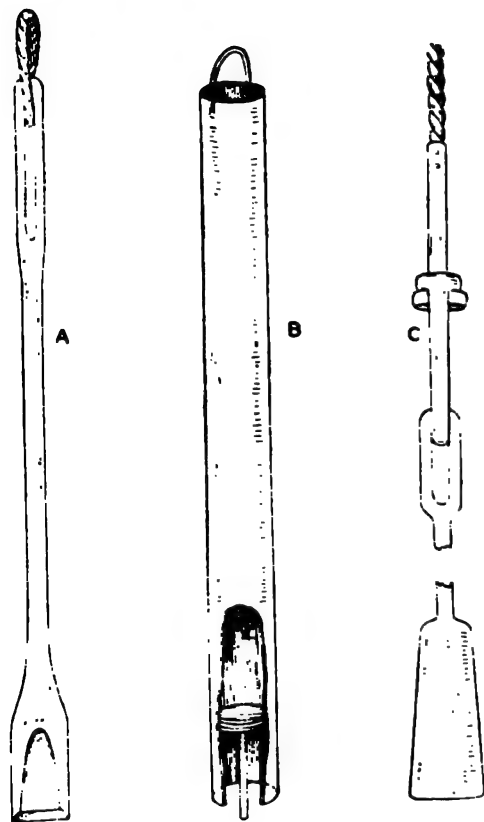

Fig. 1—Drilling Tools
In Fig. 1 is shown some tools the writer used successfully to drill a well 34 ft. in depth. Any blacksmith can make them. To a bar of iron about 1 in. in diameter and 5 ft. long weld enough steel to form a bit. This bit (A) should be fashioned as nearly as possible like the regular bits used on heavy drilling tools. The face of the bit, or the gauge, can be about $2\frac{1}{2}$ in. for starting the well, then reduced in gauge after the well is cased. A sand pump or bailer shown at B is necessary. It is made of a piece of $1\frac{1}{2}$ -in. tin pipe about 3 ft. long with a heavy wire bent in the form of a bail and fastened in one end. A dart valve is placed in the other end. It is made by driving a wooden ring or core into the pipe so it will act as a valve seat for a piece of leather, through which a large nail or spike about 3 in. long has been driven. The valve seat is held in place by several small nails or tacks driven through the tin. In case the tin pipe cannot be procured, 1-in. iron pipe may be used. Manila rope, $\frac{1}{4}$ to $\frac{3}{8}$ in., is heavy enough to use with the bailer. For the drilling tools use $\frac{3}{8}$ -in. or $\frac{1}{2}$ -in. rope.